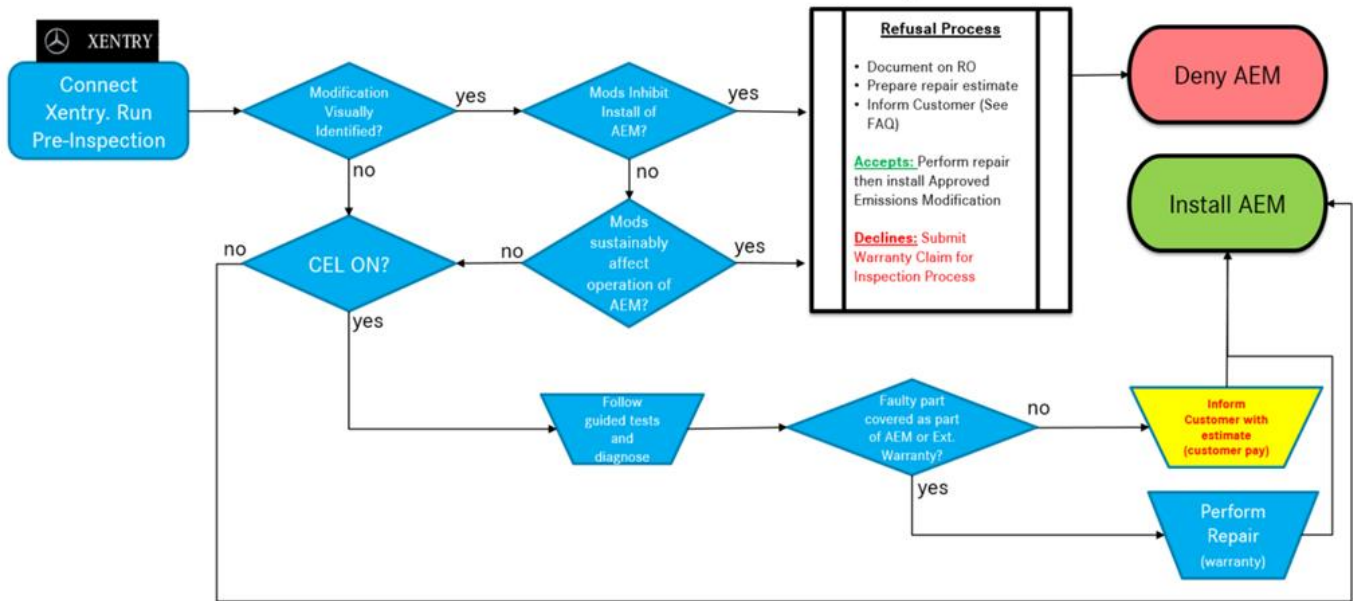

Figure 1
1.4 Pre-Inspection Overview (Figure 1)